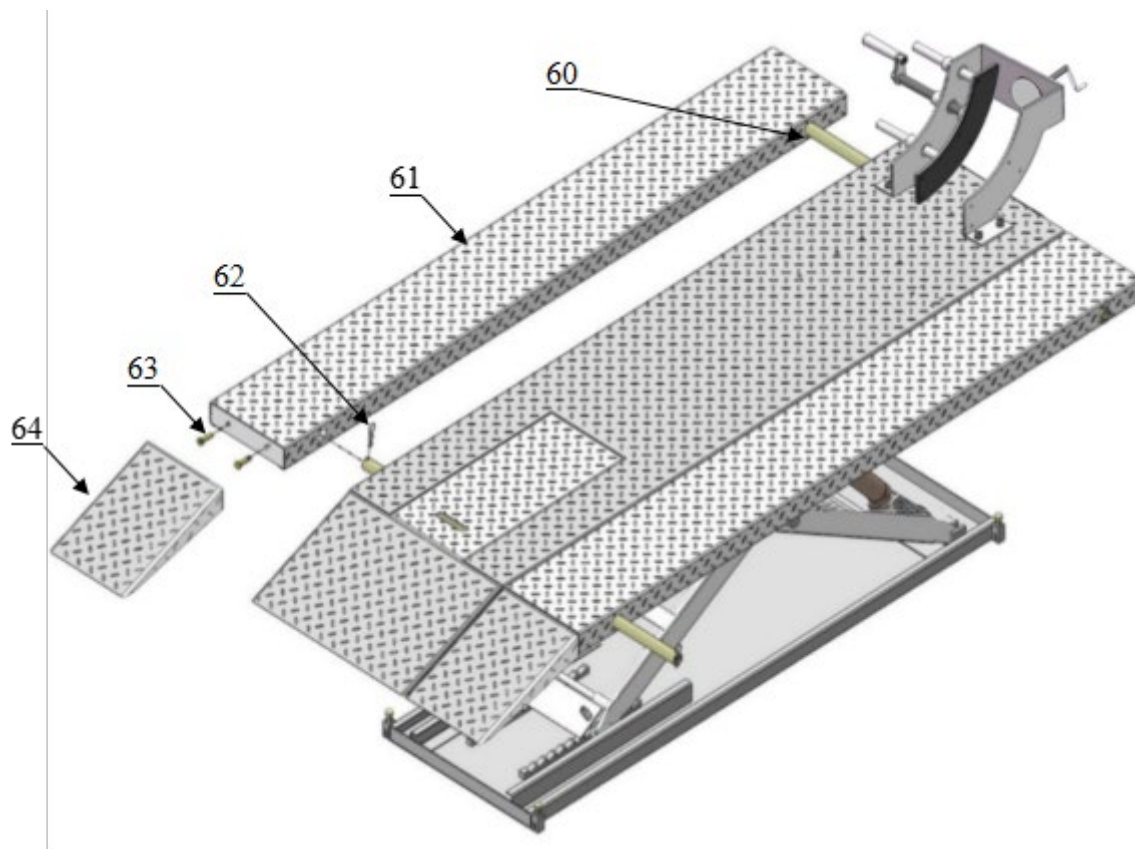

Fig.10
***F. Install optional width extension kit(MC001). See Fig 10**